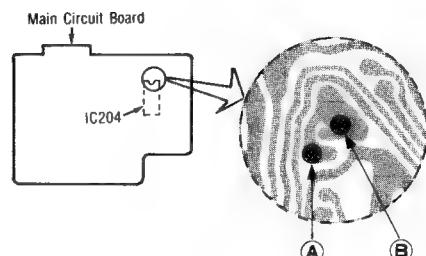

Fig. 22
3. If the measured value is not within standard value, correct it by opening or closing the jumper junctions **(A)** and **(B)** as follows (See Fig. 22):